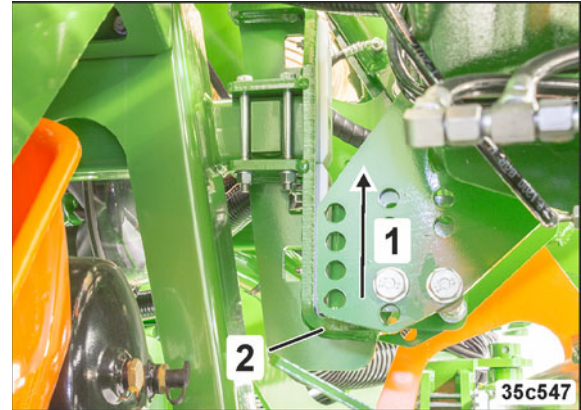

Fig. 227
6. Lift the implement sections (Fig. 227/1) out of the transport locking mechanism (Fig. 227/2).
- 9.1 Activate the *yellow* tractor control unit by confirming that the implement sections have been released from the transport locking mechanism on the AMATRON 3 (see Fig. 227).